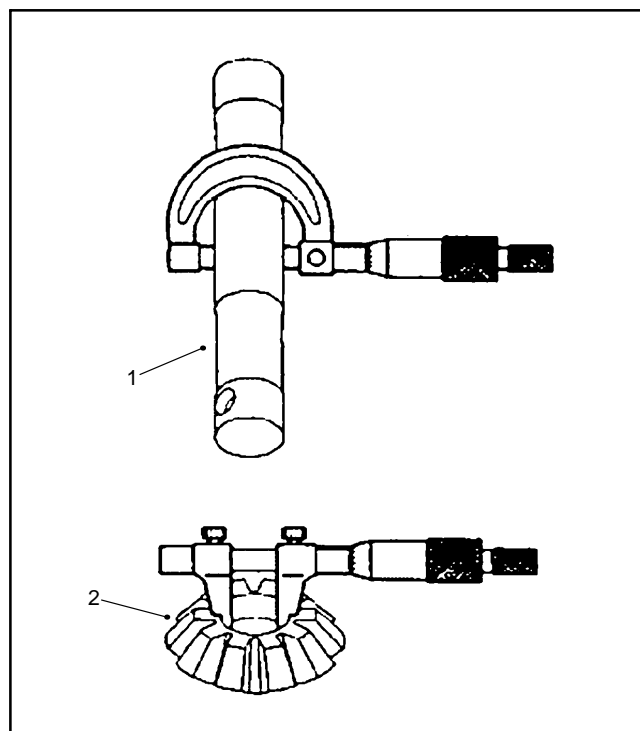

Figure 35
2. Measure the differential pinion shaft O.D. and the pinion gear I.D. to determine the pinion shaft to pinion gear clearance (Fig. 35). Replace components as necessary.